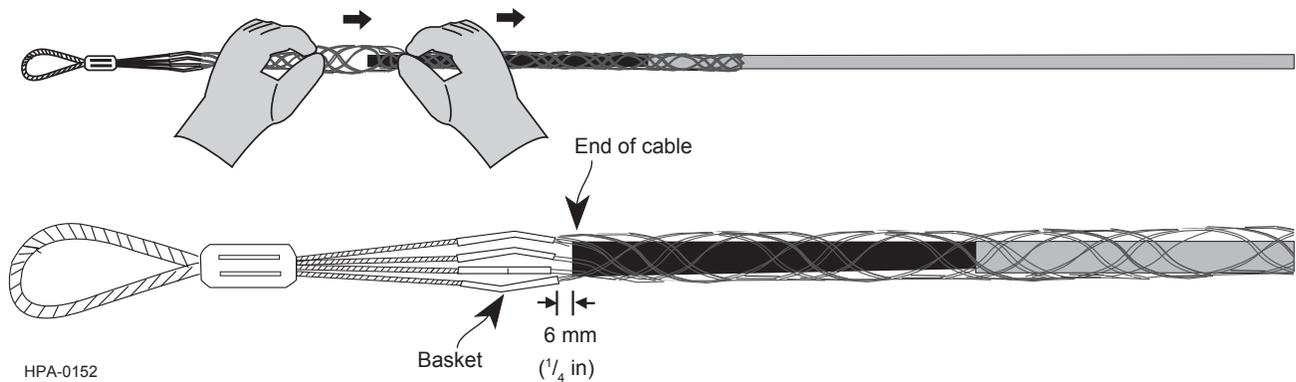

Figure 4
**Step 2:** Slide the open end of the grip over the cable and use a pumping action to “walk” the grip down the jacket by bringing your hands together and then relaxing them (Figure 4). “Walk” the grip down the cable until the cable’s end in the grip is 6 mm ( $\frac{1}{4}$  in) behind the grip’s basket.